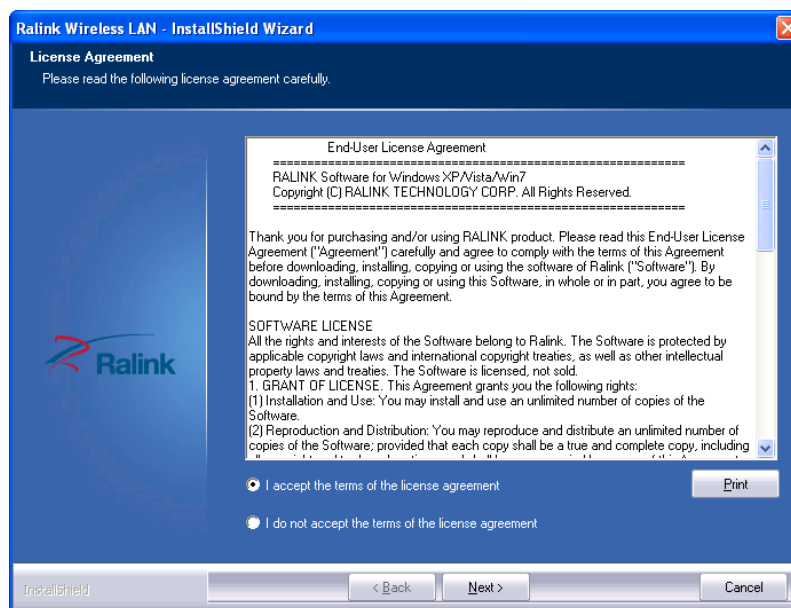

Figure 5-34: License Agreement
- Step 4:** The **License Agreement** screen in **Figure 5-34** appears.